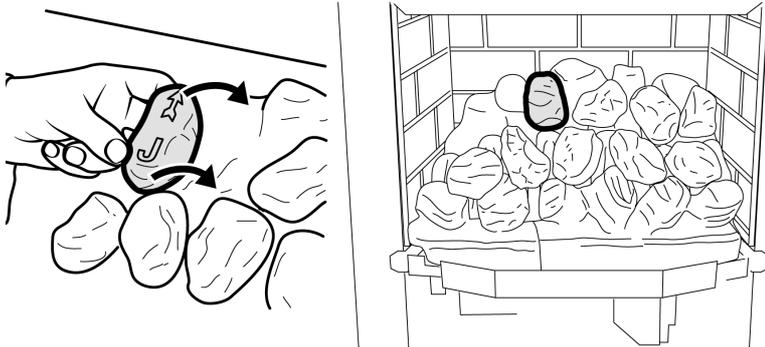

Figure 15. Third row "Coal J"
19. Hold coal 'J' upright with the arrow pointing to the top. Locate coal 'J' as shown in figure 15